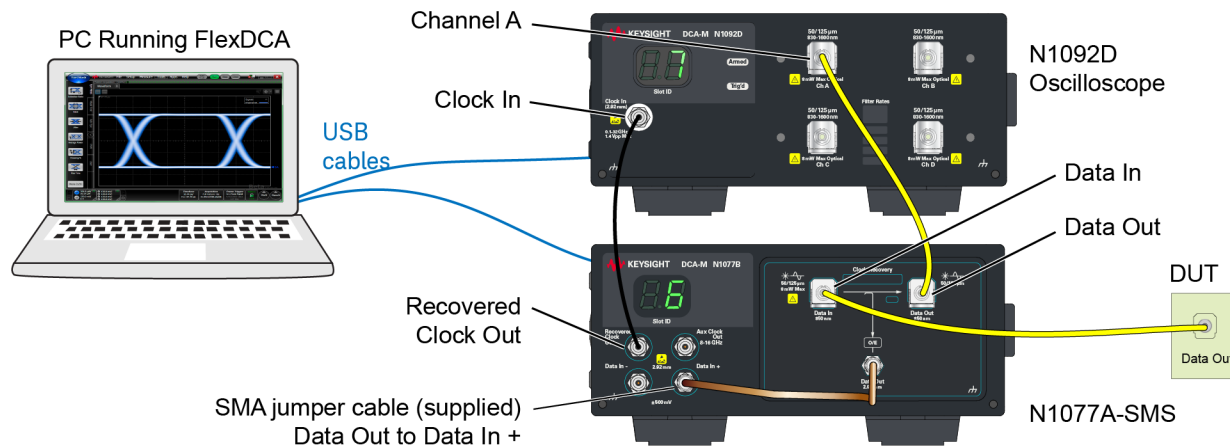

Figure 24. Typical Connection Setup
2. Connect the N1076/7A as shown in Figure 24. If connecting to anDCA-X, be sure to connect the USB cable to the DCA-X's *rear-panel* USB port.